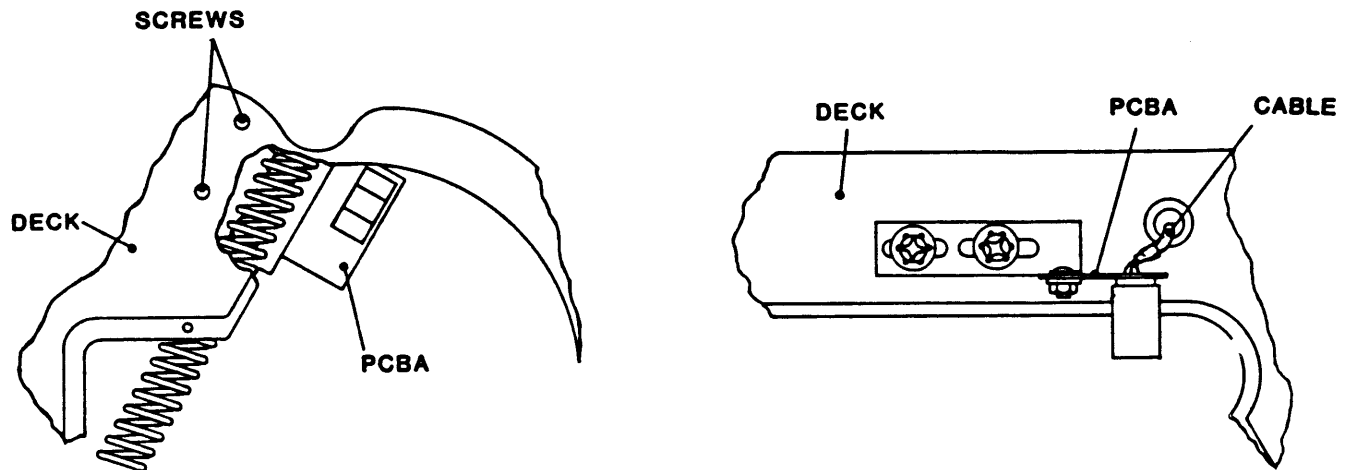

Figure 4-12 Supply-Arm and Takeup-Arm Limit Sensor PCBA's
4.3.13 TAKEUP ARM LIMIT SENSOR PCBA (Fig. 4-12)
4.3.14 SUPPLY ARM LIMIT SENSOR PCBA (Fig. 4-12)